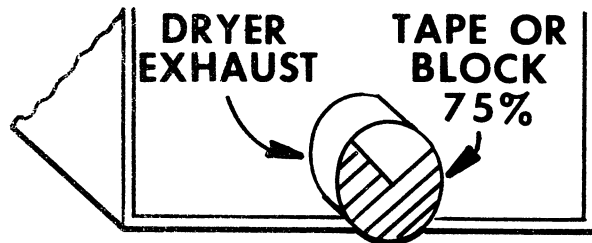

**Figure 15**
2. Mount the Thermocouple lead between one thermostat mounting ear and plate. See Figure 15.